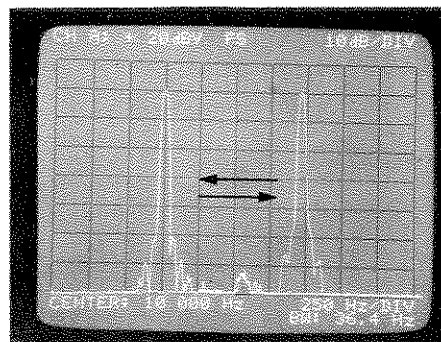

Figure 3-21. Oscillating Frequency Spectrum.
- c. The sine wave spectral line should be oscillating in frequency as indicated in Figure 3-21.